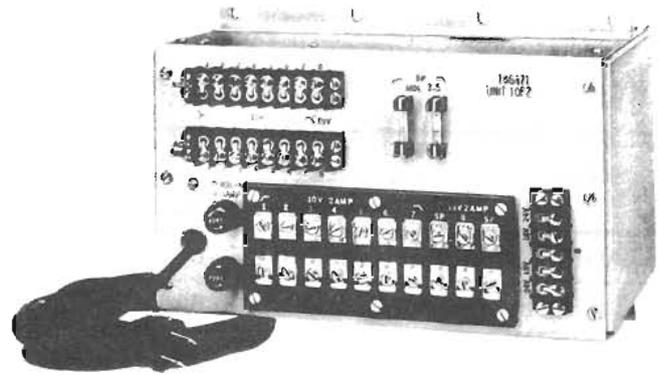
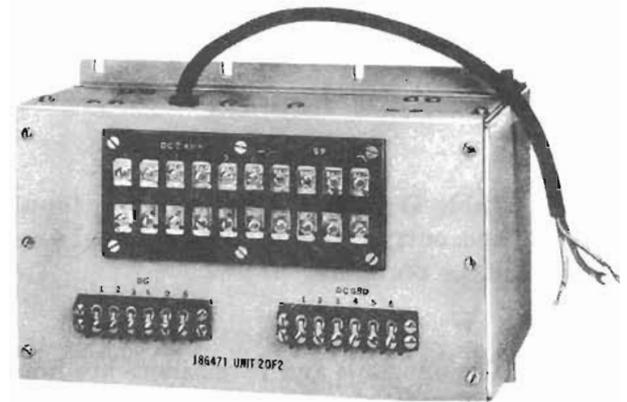

Fig. 7 – J86471A, List 1 AC Unit
Fig. 8 – J86471A, List 1 DC Unit
6.02 The 101J power plant consists of two units, a J86471A, List 1 ac unit (see Fig. 7) and a J86471A, List 1 dc unit (see Fig. 8).